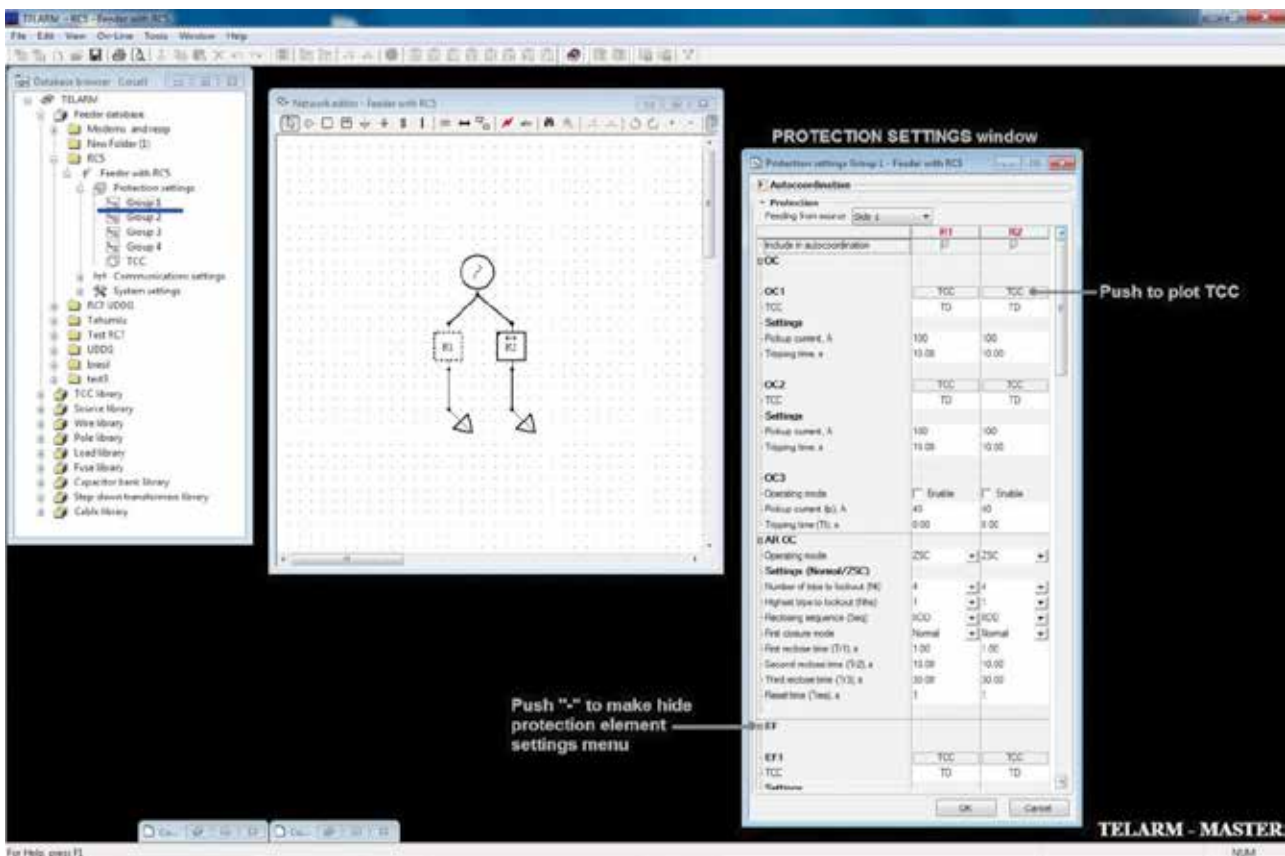

Figure 42
- 1) Open the model in the database where settings shall be changed (Figure 42)
- 2) For your convenience you may hide or show protection element settings by using “+” and “-” buttons. You may plot the TCC curve of the protection element by pushing the TCC button (Figure 42).